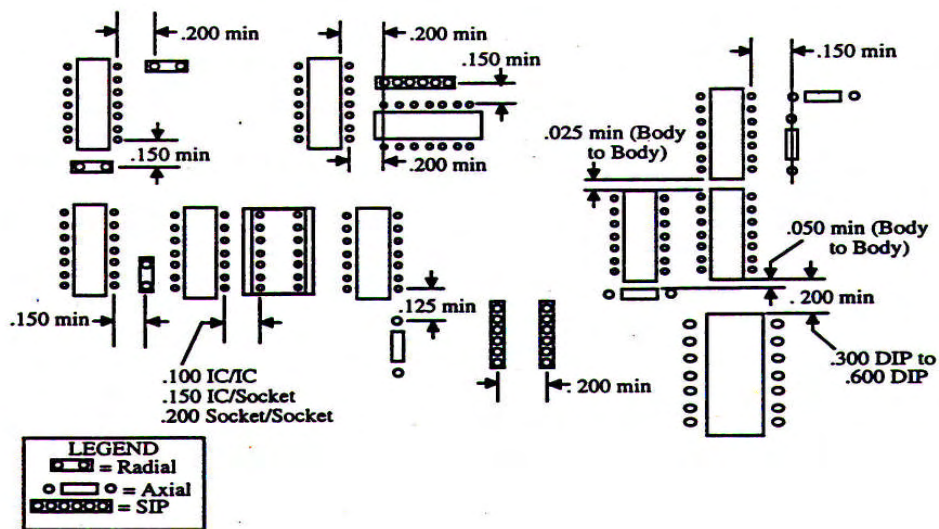

Fig 3.6.1 Component clearance for thru hole devices
3.6.1 Component Clearance for Socketed Dips and Axials – Figures 3.6.1 and 3.6.1A show the appropriate clearances to allow for automatic insertion of through-hole components.